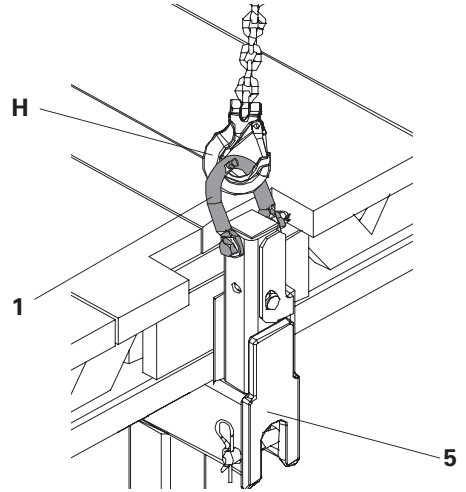

Fig. 6a
Only one Crane Eye CB 240-2 0.7 t may be fixed to each climbing bracket (5). (Fig. 6a)
1. Attach Hook (H) of the lifting gear to the Crane D-Ring (1) of the Crane Eye CB 240-2 0.7 t and secure. (Fig. 6a)